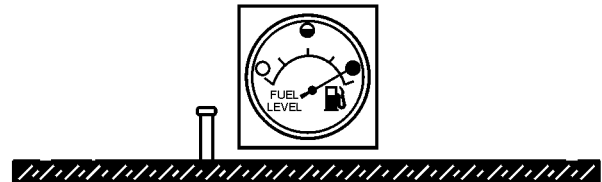

Figure 30. Full Fuel Tank
3. **NEVER overfill fuel tank** — It is important to read the fuel gauge when filling trailer fuel tank. **DO NOT** wait for fuel to rise in filler neck (Figure 30).